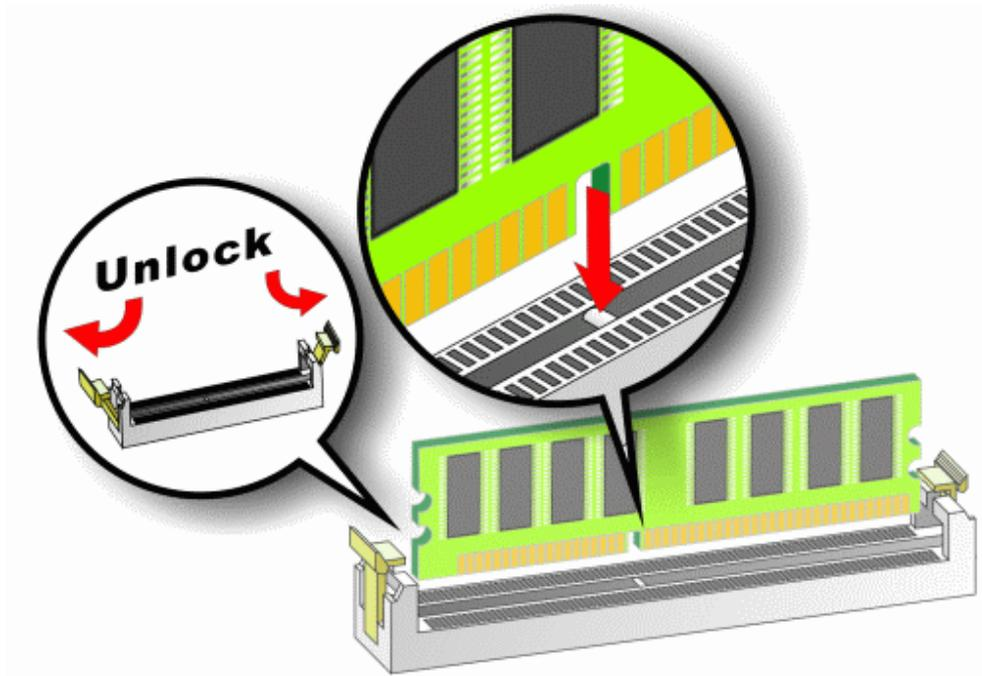

Figure 5-1: Installing a DIMM
To install a DIMM into a DIMM socket, please follow the steps below and refer to **Figure 5-1**.
- Step 1: Open the DIMM socket handles.** The DIMM socket has two handles that secure the DIMM into the socket. Before the DIMM can be inserted into the socket, the handles must be opened. See **Figure 5-1**.
- Step 2: Align the DIMM with the socket.** The DIMM must be oriented in such a way that the notch in the middle of the DIMM must be aligned with the plastic bridge in the socket. See **Figure 5-1**.
- Step 3: Insert the DIMM.** Once properly aligned, the DIMM can be inserted into the socket. As the DIMM is inserted, the white handles on the side of the socket will close automatically and secure the DIMM to the socket. See **Figure 5-1**.